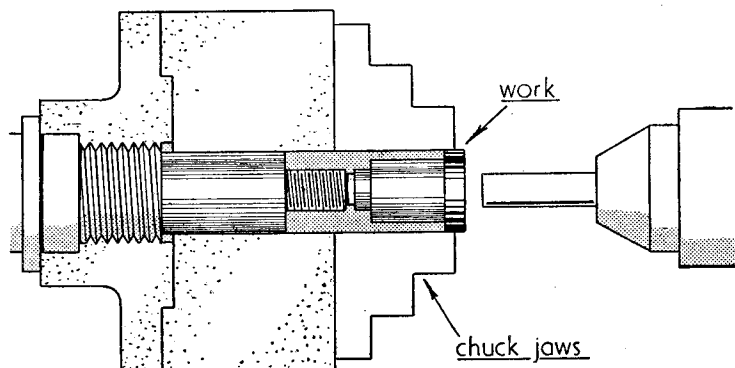

Fig. 3. The fitting in use for aligning a work-piece in the chuck
The finished appliance is illustrated in Fig. 1 and the separate parts are shown in Fig. 2. Three scrap-ends of mild-steel are enough for the construction, and the method of using the fitting is illustrated in Fig. 3. The body part (A) fits inside the chuck body clear of the jaws, and the threaded spindle (B) reaches as